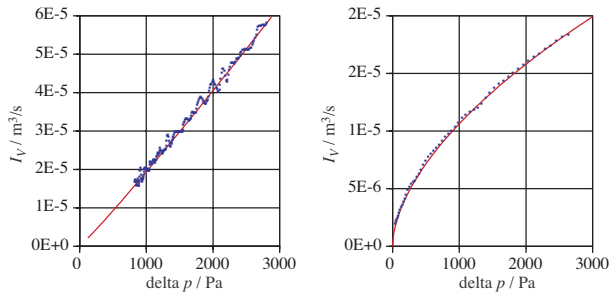

Figure 1.7: Flow characteristics for laminar flow (oil in a pipe, left) and for turbulent flow (water in a pipe, right). I_V is the symbol for volume current.
Flows and pressure differences. When a fluid flows steadily through a pipe, we observe that its pressure drops in the direction of flow. The stronger the current, the bigger the drop. The relation between the resistive pressure drop (called the *resistive pressure difference*) and the associated volume current is called the *flow characteristic* or *resistive characteristic* (Fig. 1.7). It allows us to calculate flows if we know the associated pressure difference, or vice-versa.
The resistive flow characteristic is linear for highly viscous fluids such as oils (see Fig. 1.7, left). Water flowing through a pipe typically leads to a nonlinear characteristic (Fig. 1.7, right). It is found that linear characteristics are associated with *laminar flows* whereas the nonlinear type is the result of *turbulent flow*.
- Consider the type of flow characteristic found for oil flowing in a pipe as in Fig. 1.7 (in the left diagram). What do you expect the characteristic curve to be for a pipe twice as long as the one used in the experiment? What do you think the characteristic curve should be if the pipe has a larger radius?